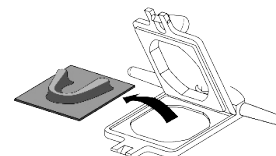

Fig. 8
- Remove the impression from the deep-draw sheet (fig. 8) and cut away the flat part of the sheet.